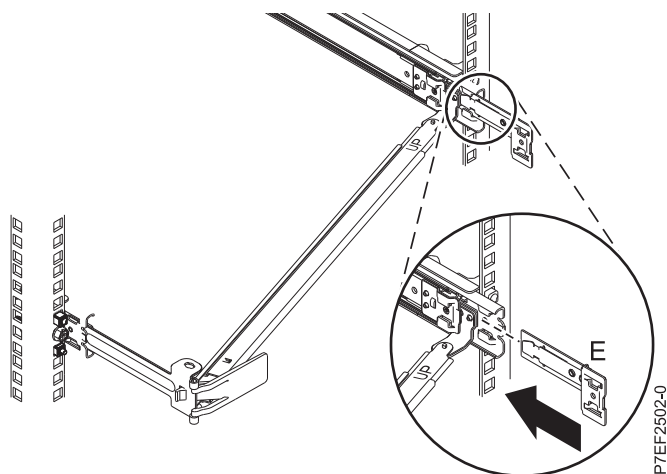

Figure 12. Installing the extension bracket into the slide rail
5. Slide the extension bracket (**E**) into the right slide rail until the spring-loaded pin snaps into place. For details, see Figure 12.